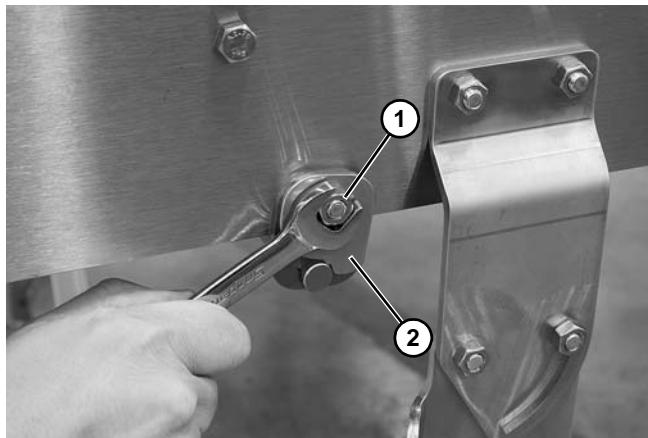

Figure 135
1. Loosen nut (Figure 135, item 1) and rotate return clip (Figure 135, item 2) up on both sides of conveyor. Loosely tighten nuts to hold clip in place.